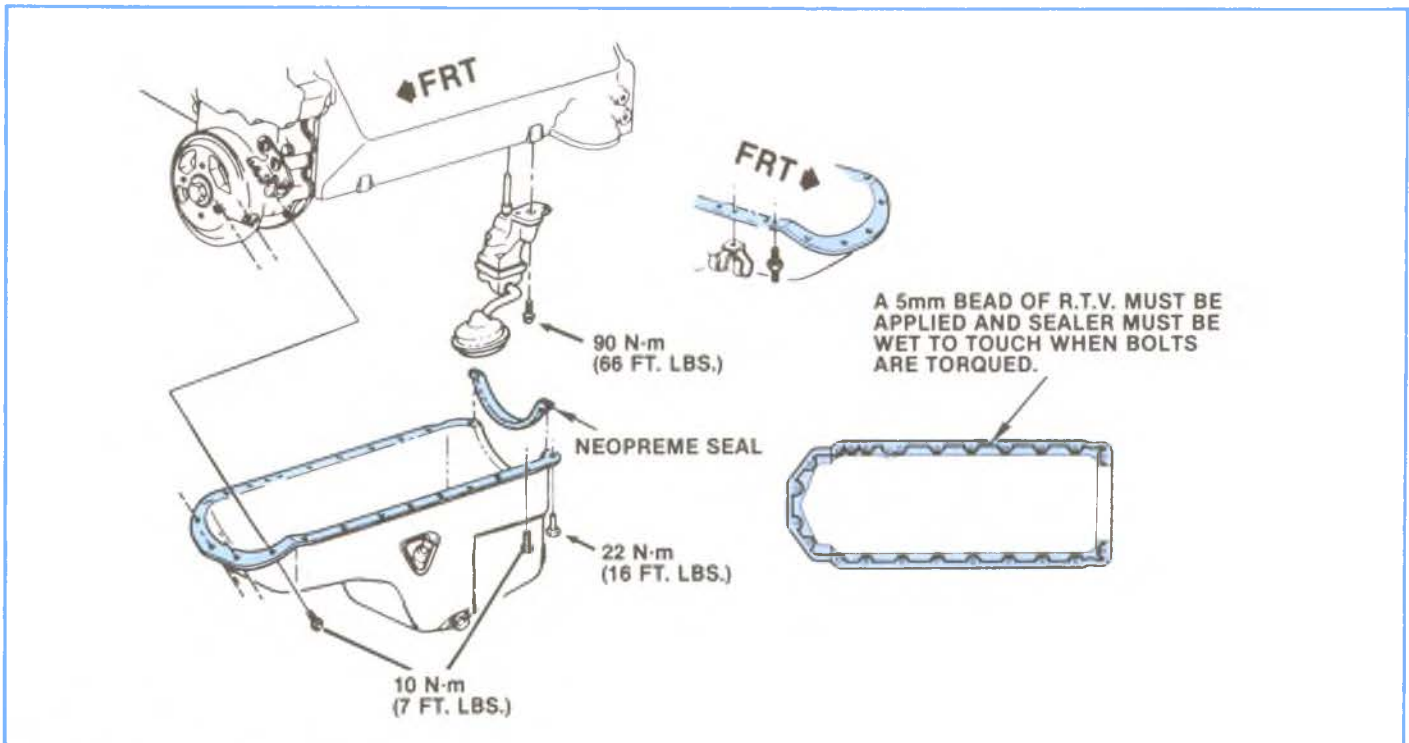

Figure 2-36, Oil Pan Seal.
6.2L diesel uses R.T.V. around most of the perimeter of the pan, except at the rear, where a neoprene seal is used. See Figure 2-36.